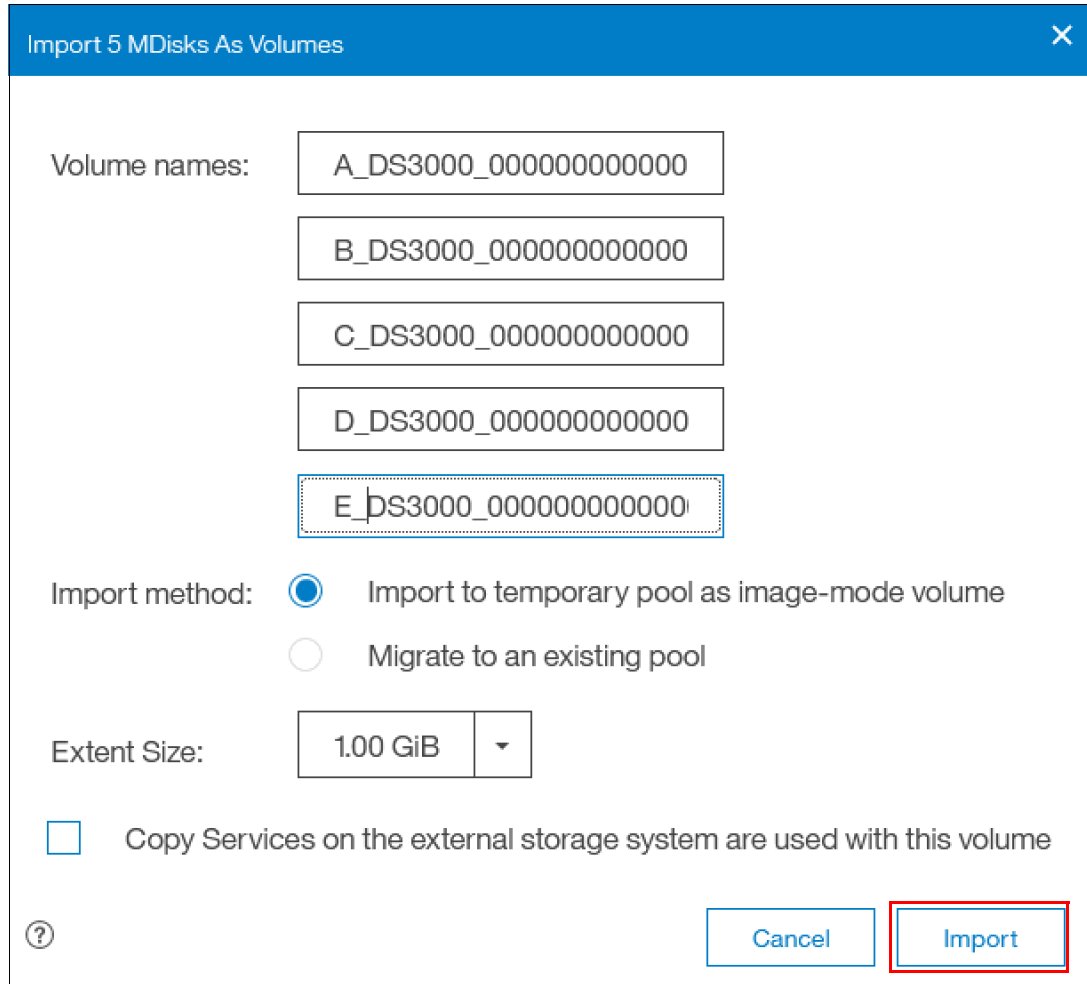

Figure 11-9 Import MDisks as Volumes window
2. Selecting the Import option opens a new window that requires more volume information, as shown in Figure 11-9.